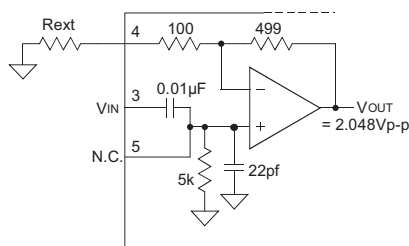
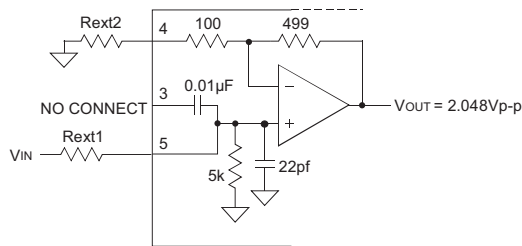
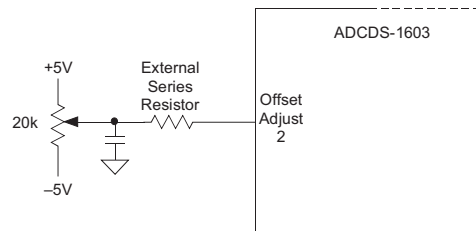

Figure 2b. Direct Mode
Figure 2d. Non-inverting Mode
Figure 3. Offset Adjustment Circuit
- Offset adjustment resistor (Figure 3), Rext (Figure 2b, 2c, & 2f), and Rext1 & Rext2 (Figure 2d) should be placed as close to the ADCDS-1603 as possible.
When applying inputs that are less than 2.048Vp-p, a coarse gain adjustment (applying an external resistor to pin 4) must be performed to ensure that the full scale pixel data input signal (saturated signal) produces 2.048Vp-p signal at the input-amplifier's output (VOUT) (See figure 2b & 2c).
The ADCDS-1603 achieves its specified accuracies without the need for external calibration. If required, the device's small initial offset error can be reduced to zero using the OFFSET ADJUST (pin 2) feature (See figure 3). For fine gain adjustment model, contact the factory.
Figure 2b. describes the configuration for applications using a pixel data input signal with an amplitude greater than 0.342Vp-p and less than 2.048Vp-p. Using a single external series resistor, the coarse gain of the ADCDS-1603 can be set. The coarse gain of the input amplifier can be determined from the following equation: VOUT = 2.048Vp-p = VIN \* (1+(499/(100+Rext))) (all internal resistors having a 0.1% tolerance).
Figure 2d. describes the typical configuration for applications using a pixel data input signal whose amplitude is greater than 2.048Vp-p. Using a single external series resistor (Rext 1) in conjunction with the internal 5K (1%) resistor to ground, an attenuation of the input signal can be achieved. The coarse gain of this circuit can be determined from the following equation:
Manual offset adjustment for the ADCDS-1603 can be accomplished using the adjustment circuit shown in Figure 3. A software controlled D/A converter can be substituted for the 20KΩ potentiometer. The offset adjustment feature allows the user to adjust the Offset/Dark Current level of the ADCDS-1603 until the output bits are 00 0000 0000 0000 and the LSB flickers between 0 and 1. The ADCDS-1603's offset adjustment is dependent on the value of the external series resistor used in the offset adjust circuit (Figure 3) and the gain of the input-amplifier.